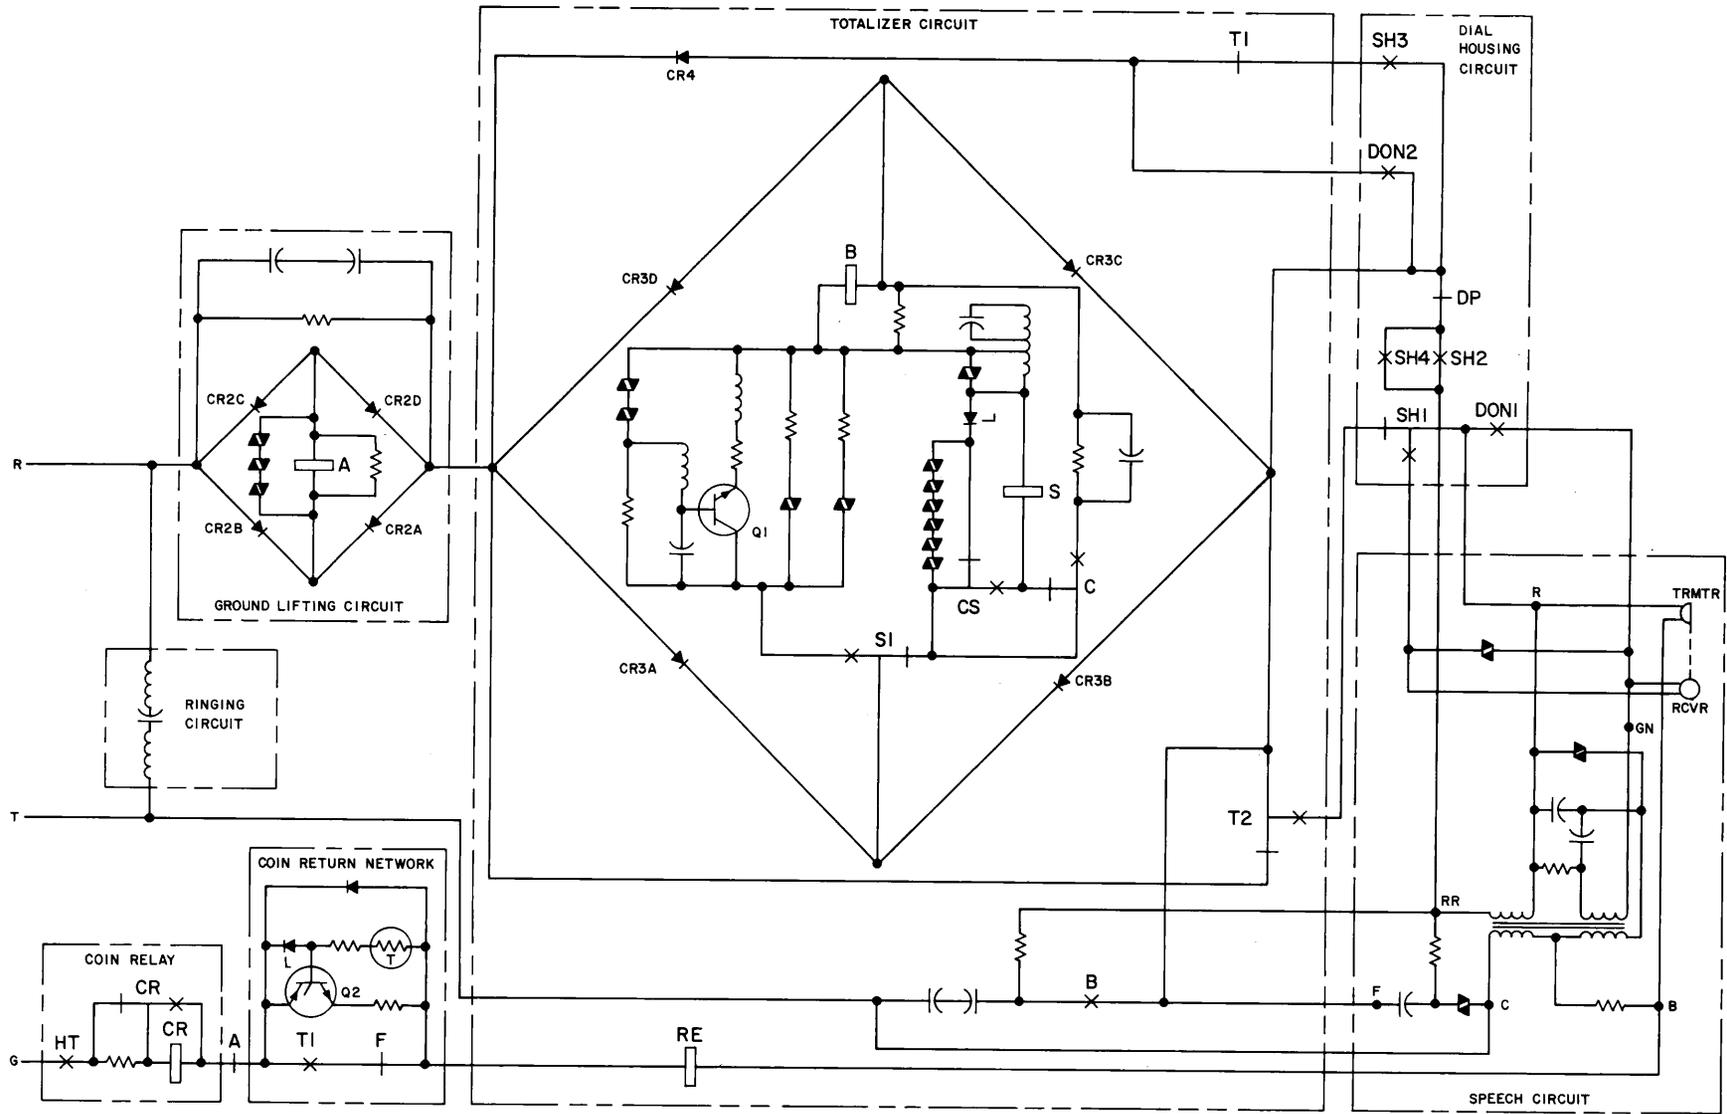

Fig. 9—1C1/2C1 Coin Telephone Set—Schematic (DTF Mode)
#### **Other Component Circuits (Fig. 9 through 12)**
**2.21 Ground Lifting Circuit (Used in DTF only) (Fig. 9 and 10):**
(Fig. 9 and 10):
**DIAL-TONE-FIRST SERVICE (Fig. 9 and 10)**